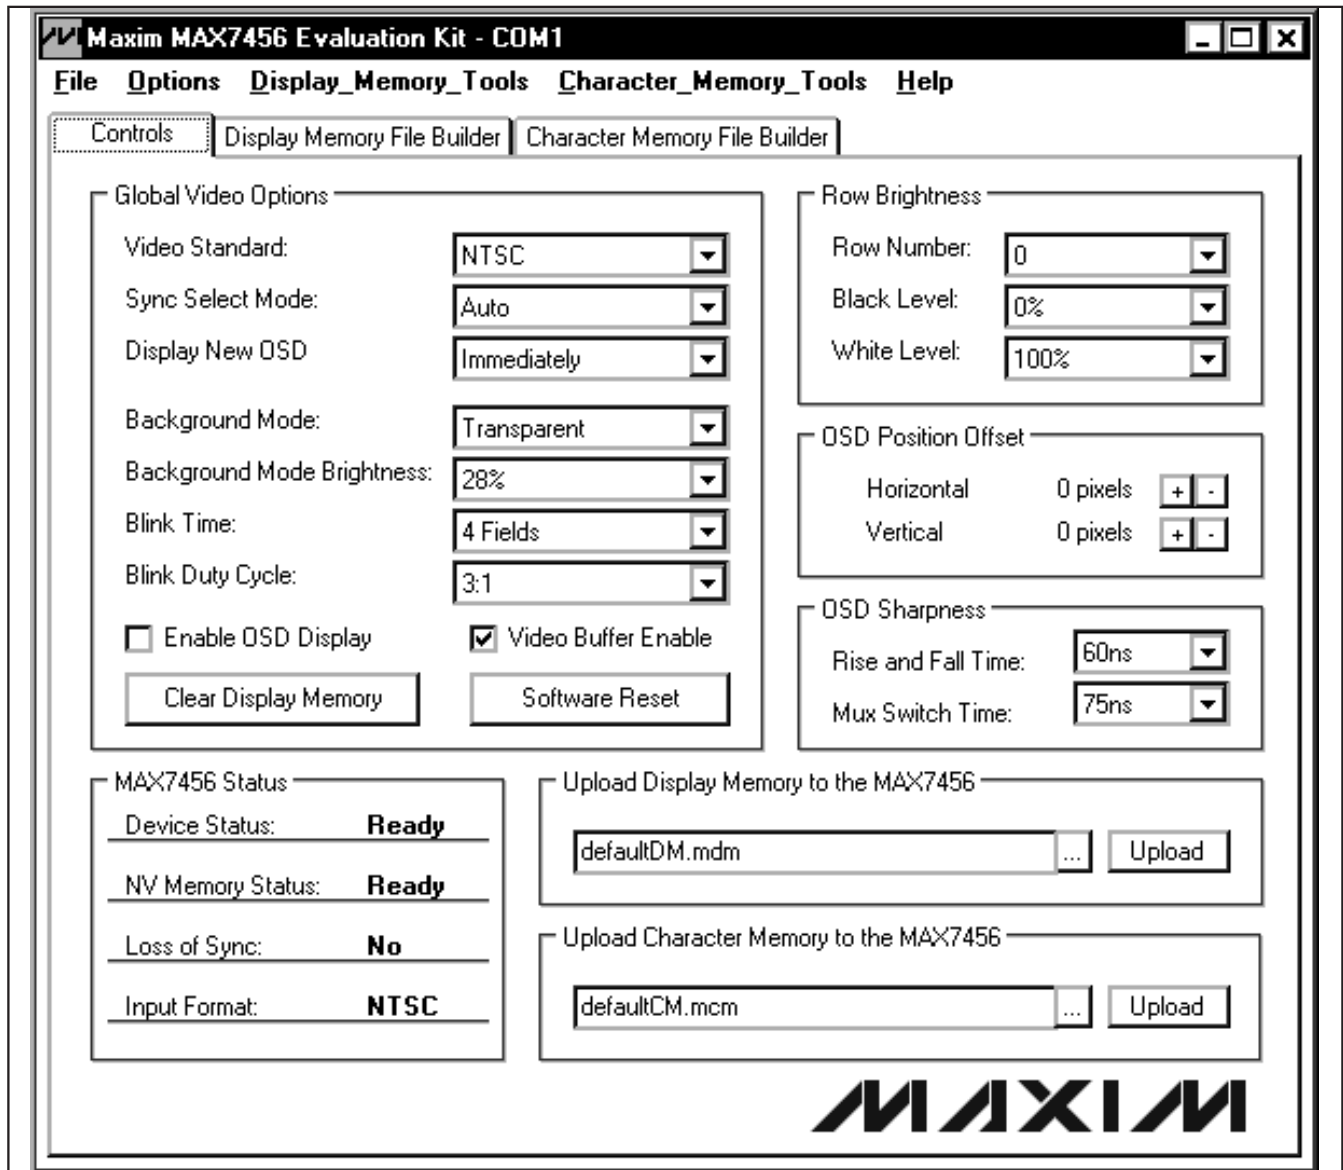

Figure 6. MAX7456 EV Kit Software—Controls Tab
- 12) The software automatically searches for the MAX7456. Check the **Enable OSD Display** checkbox in the **Global Video Options** group box (Figure 6) to make the on-screen display video visible. Type the filename SHOW_ALL_CHARACTERS.MDM into the **Upload Display Memory to the MAX7456** edit box, then click the **Upload** button.
The **Controls** tab shown in Figure 6 allows access to most of the registers on the MAX7456. Refer to the MAX7456 IC data sheet for a description of the controls.